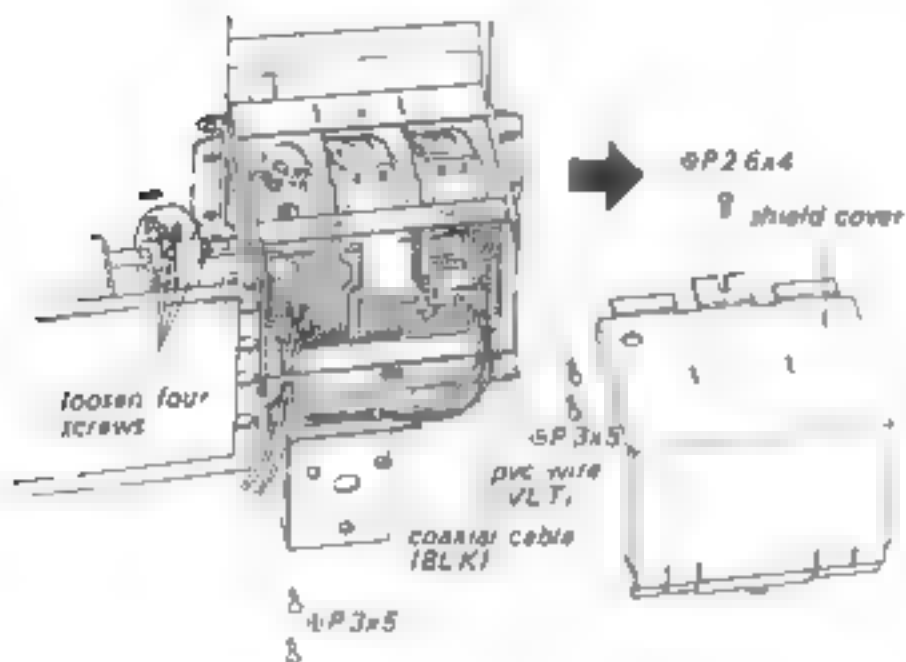

Fig. 2-9
- 3 Remove the five screws and the shield cover as shown in Fig. 2-9 and unsolder the two lead wires